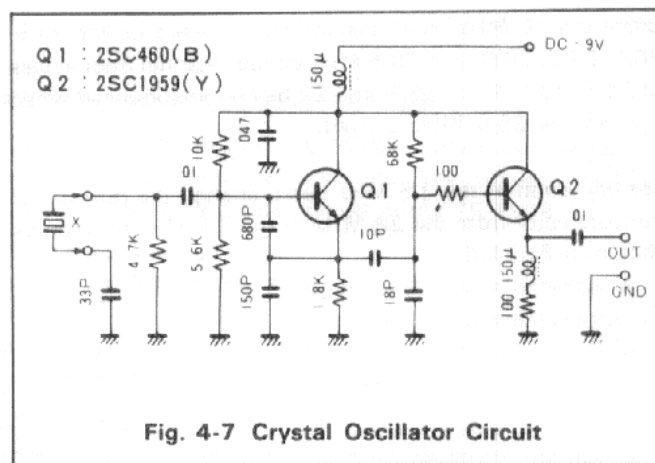

Fig. 4-7 Crystal Oscillator Circuit
- Oscillation circuit: See Fig. 4-7